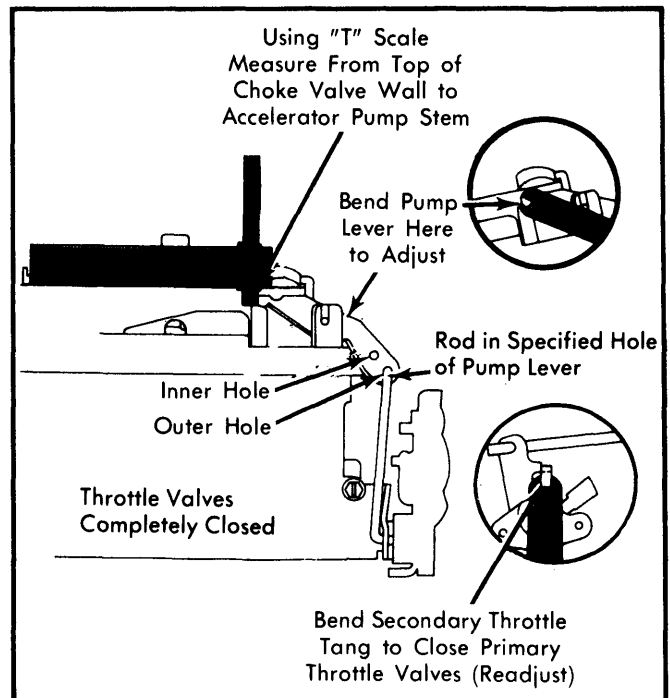

Fig. 3 Adjusting Accelerator Pump
1) Close throttle valves completely. Make sure fast idle cam follower is off fast idle cam steps. Bend secondary throttle closing tang to make sure primary throttle valves are fully closed. Readjust after accelerator pump adjustment. See Fig. 3.